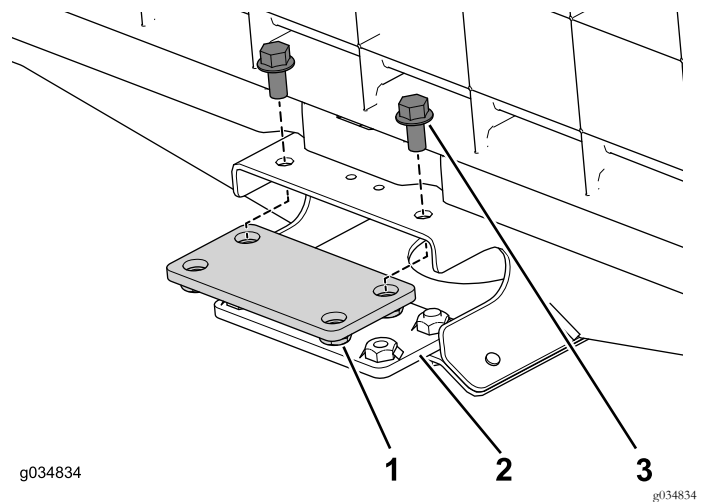

Figure 70
1. Use the 4 flange bolts (3/8 x 3/4 inch) to loosely install the top and bottom connection plates to the center channel on the front section (Figure 70).